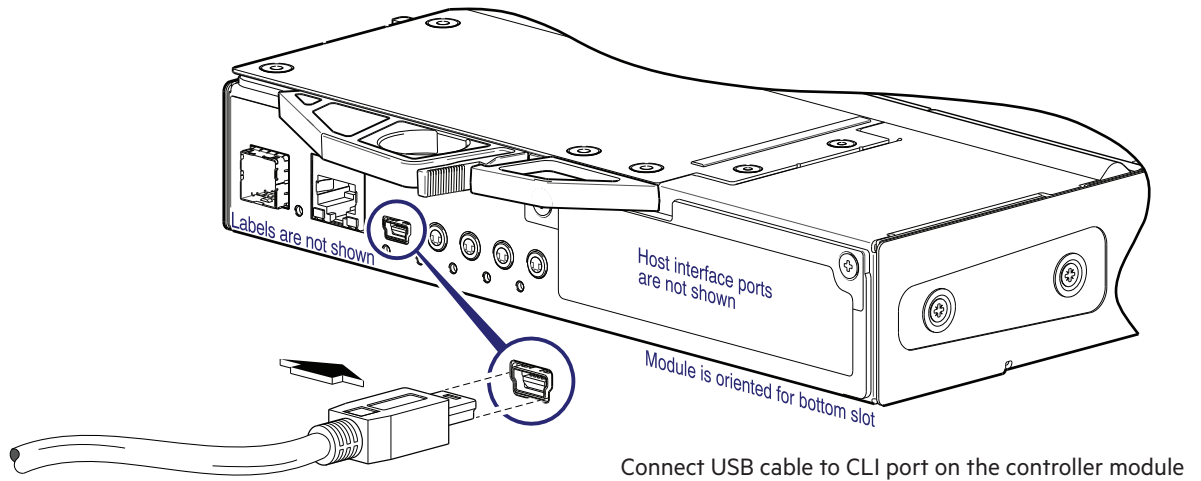

Figure 36 Connecting a USB cable to the CLI port
2. Use the provided USB cable to connect controller A to a USB port on a host computer. The USB mini-B male connector plugs into the CLI port as shown in Figure 36 (generic controller module is shown).